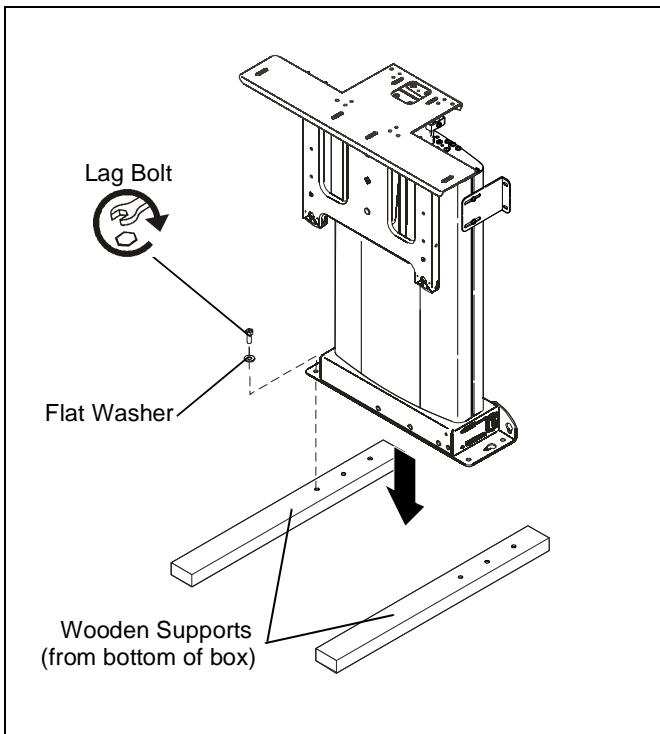

Figure 1
3. Lay two wooden supports on floor and mount CM2C40 to supports using four 5/16" flat washers and four 5/16" x 2-1/2" lag bolts (hardware provided). (See figure 1)